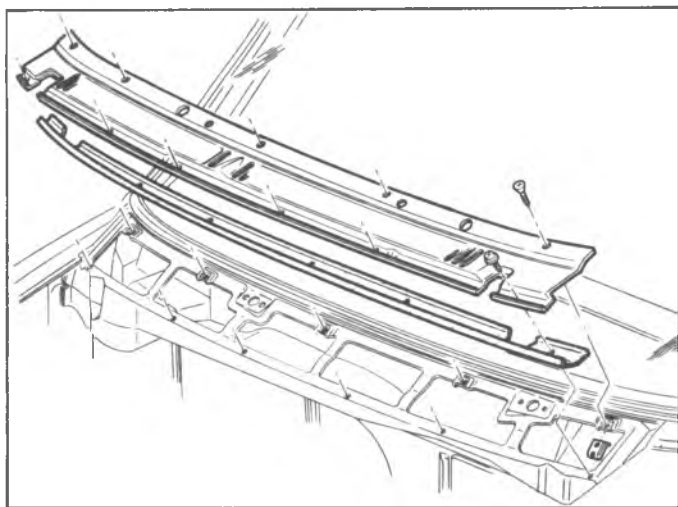

Fig. 3G—Cowl Ventilator Grille
2. Remove screws retaining grille, figure 3G.